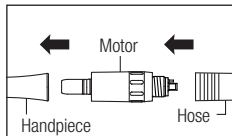

Fig. 12
- 4) Remove the handpiece from the motor and remove the motor from the hose (Fig. 12).